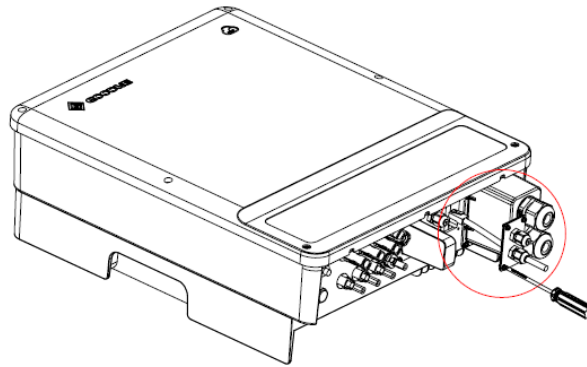

Figure 27 Connection of the Communication Cables on the Inverter Side-Removing Waterproof Baffle
Step 9: Please remove the waterproof baffle of the inverter at first as shown in Figure 27.